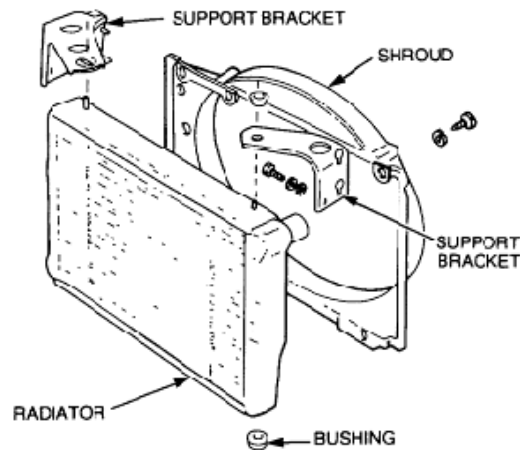

Figure 21 Radiator Assembly Exploded View
- Remove the five screws securing the shroud to the radiator and move the shroud towards the engine (Figure 21).